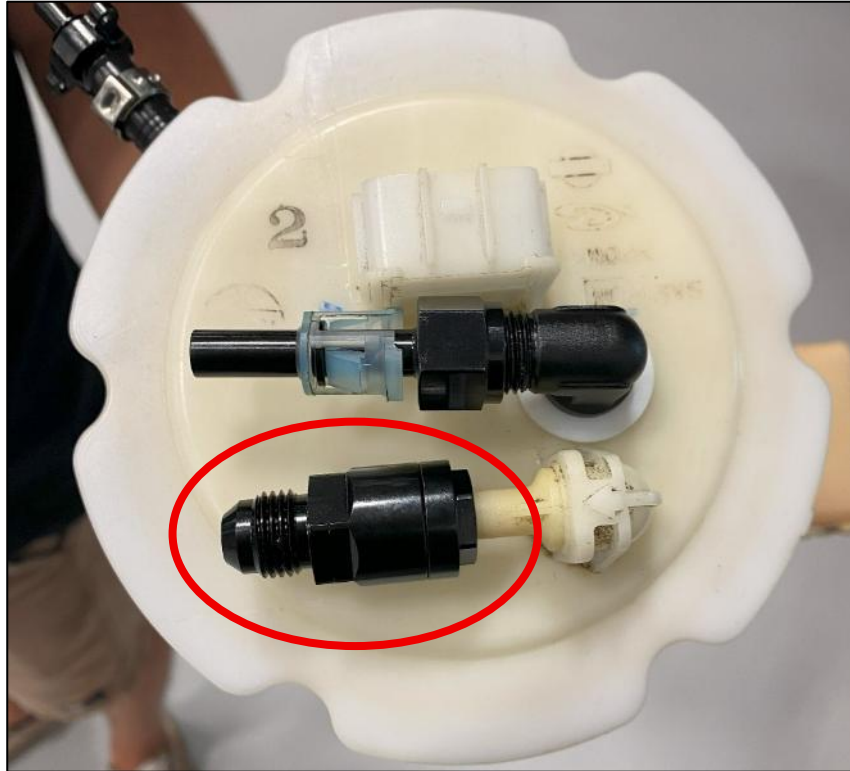

Figure 35
28. Locate (1) one 5/16" Threaded Adaptors. Install it onto the OE Fuel Feed Port on the top of the Fuel Basket Assembly. *Figure 35.*